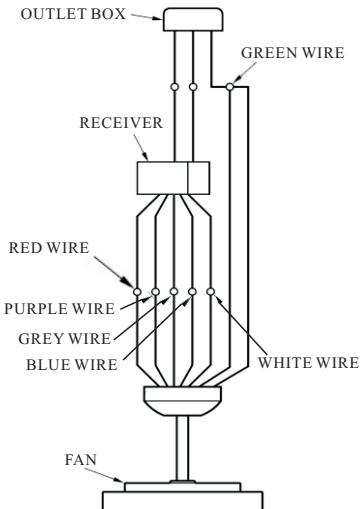

FIG.8
2. Connect the red wire from receiver to the red wire from fan with wire nut. Connect the purple wire from receiver to the purple wire from fan with wire nut. Connect the grey wire from receiver to the grey wire from fan with wire nut. Connect the blue wire from receiver to the blue wire from fan with wire nut. Connect the white wire from receiver to the white wire from fan with wire nut. Connect the green wire from ceiling, and green wire from hanger bracket with green wire from downrod ball with wire nut. (see fig 8)